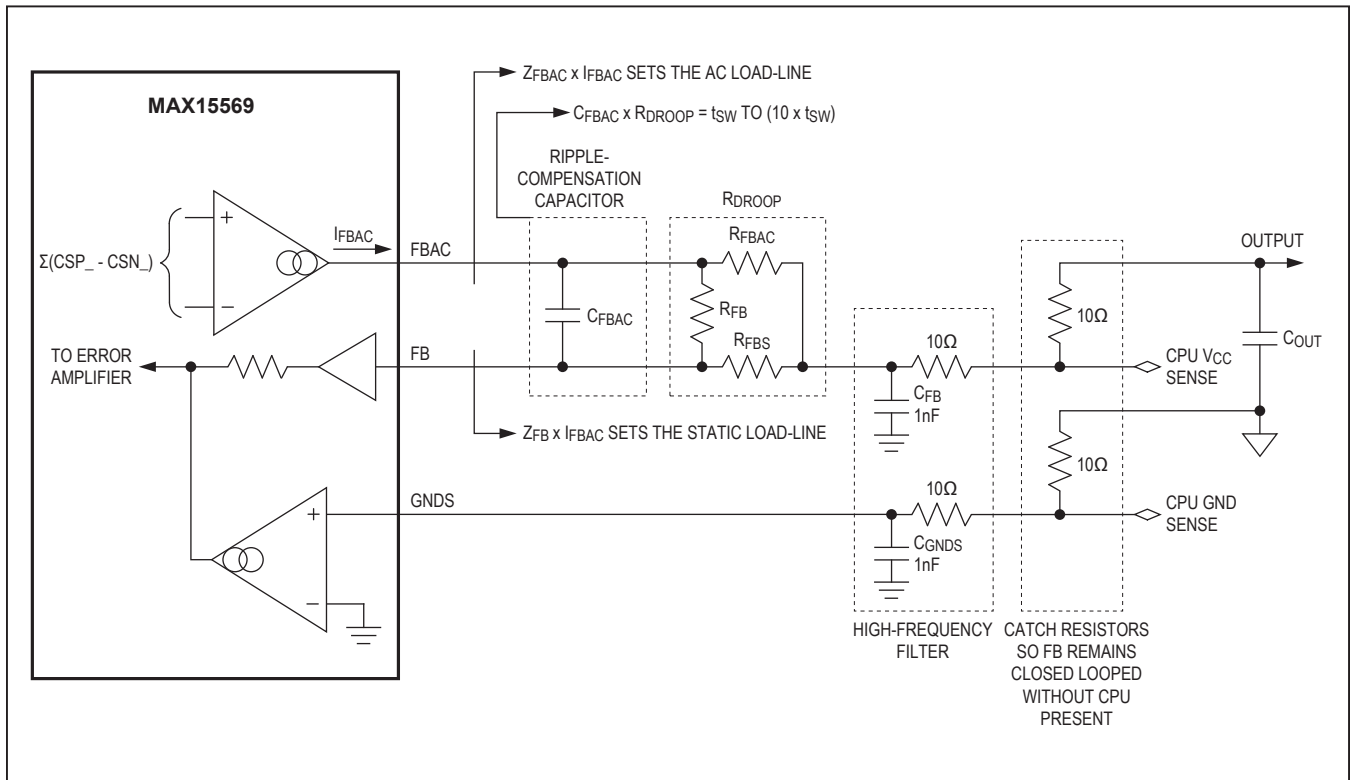

Figure 6. FB Network (Load-Line Control and Remote Sensing)
The device includes a transconductance amplifier for controlling the load-line regardless of the sense impedance value. The input signal of the amplifier is the sum of the current-sense voltages ( $V_{CSP1}$ ,  $V_{CSN1}$ , and  $V_{CSP2}$ ,  $V_{CSN2}$ ), which differentially sense the current-sense voltage. See Figure 6.
- The effective impedance ( $Z_{FB}$ ) between the feedback-sense input (FB) and the positive side of the feedback remote sense sets the static (DC) droop.
- An integrator on FB corrects for output ripple and ground-sense offset (see Figure 6).
\*See Figure 6.
The device includes differential, remote-sense inputs to eliminate the effects of voltage drops along the PCB traces and through the power pins of the processor. The feedback-sense node connects to the load-line resistor/capacitor network ( $R_{DROOP}/C_{FBAC}$ ). The ground-sense (GNDS) input connects to an amplifier that adjusts the feedback voltage to counteract the voltage drop in the ground plane. Connect the load-line resistor ( $R_{DROOP}$ ) and ground-sense (GNDS) input directly to the remote-sense outputs of the processor, as shown in Figure 6. The correction range is bounded to less than  $\pm 200\text{mV}$ . The remote-sense lines draw less than  $\pm 0.5\mu\text{A}$  to minimize the offset errors.